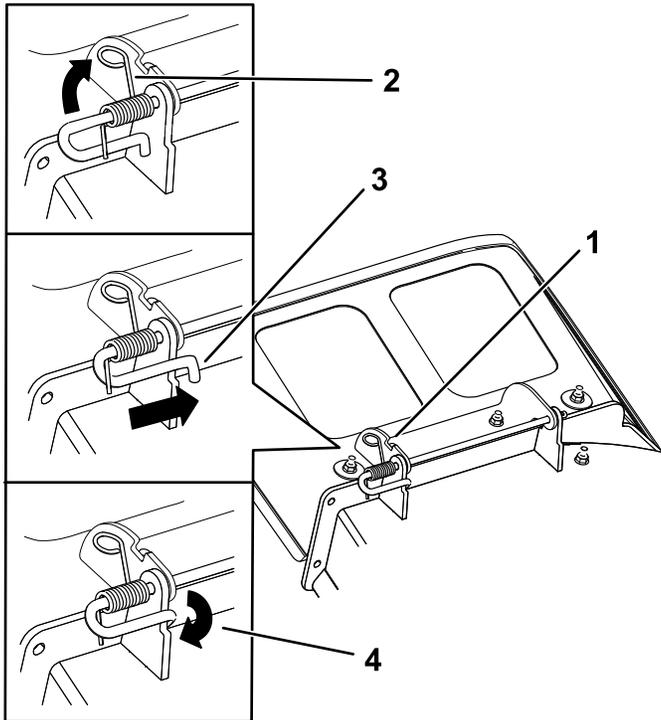

Figure 70
3. Position the new discharge deflector with the bracket ends between the welded brackets on the deck as shown in Figure 70.
5. Position the spring on the rod as shown in Figure 70 so that the shorter spring end comes from under the rod before the bend and going over the rod as it returns from the bend.
6. Lift the loop end of the spring and place it into the notch on the deflector bracket (Figure 70).
7. Secure the rod and spring assembly by twisting it so that the short end of the rod is behind the front bracket welded to the deck (Figure 70).